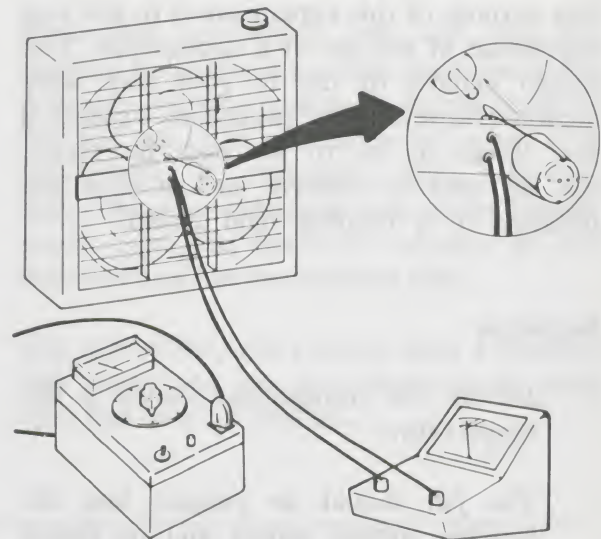

Figure 13. A DC motor acts as a tach generator.
1. *Set up* the arrangement shown in Figure 13.